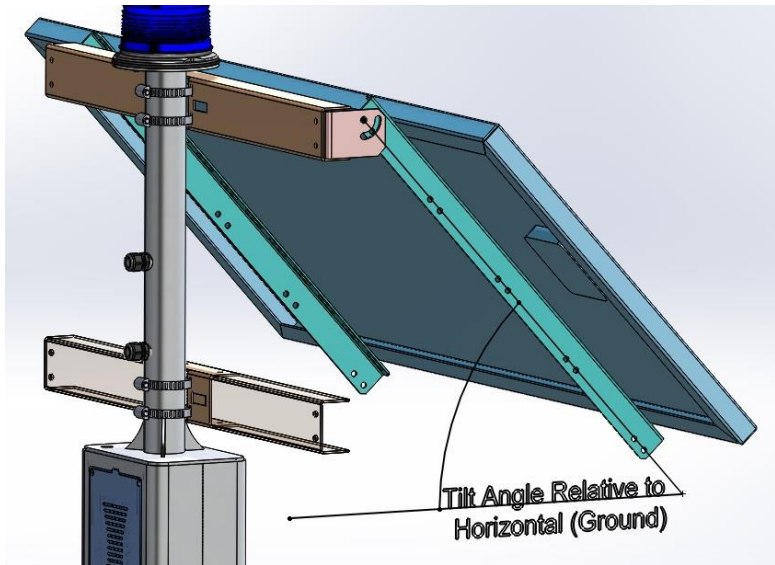

Figure 10. Panel tilt angle reference
10. Refer to Appendix A for correct tilt angle according to geographic location. To adjust the tilt angle, loosen the bolts holding the mounting rails to the clips and adjust the tilt of the panel as shown in Figure 10. Re-tighten the bolts to **12 ft-lbs**.